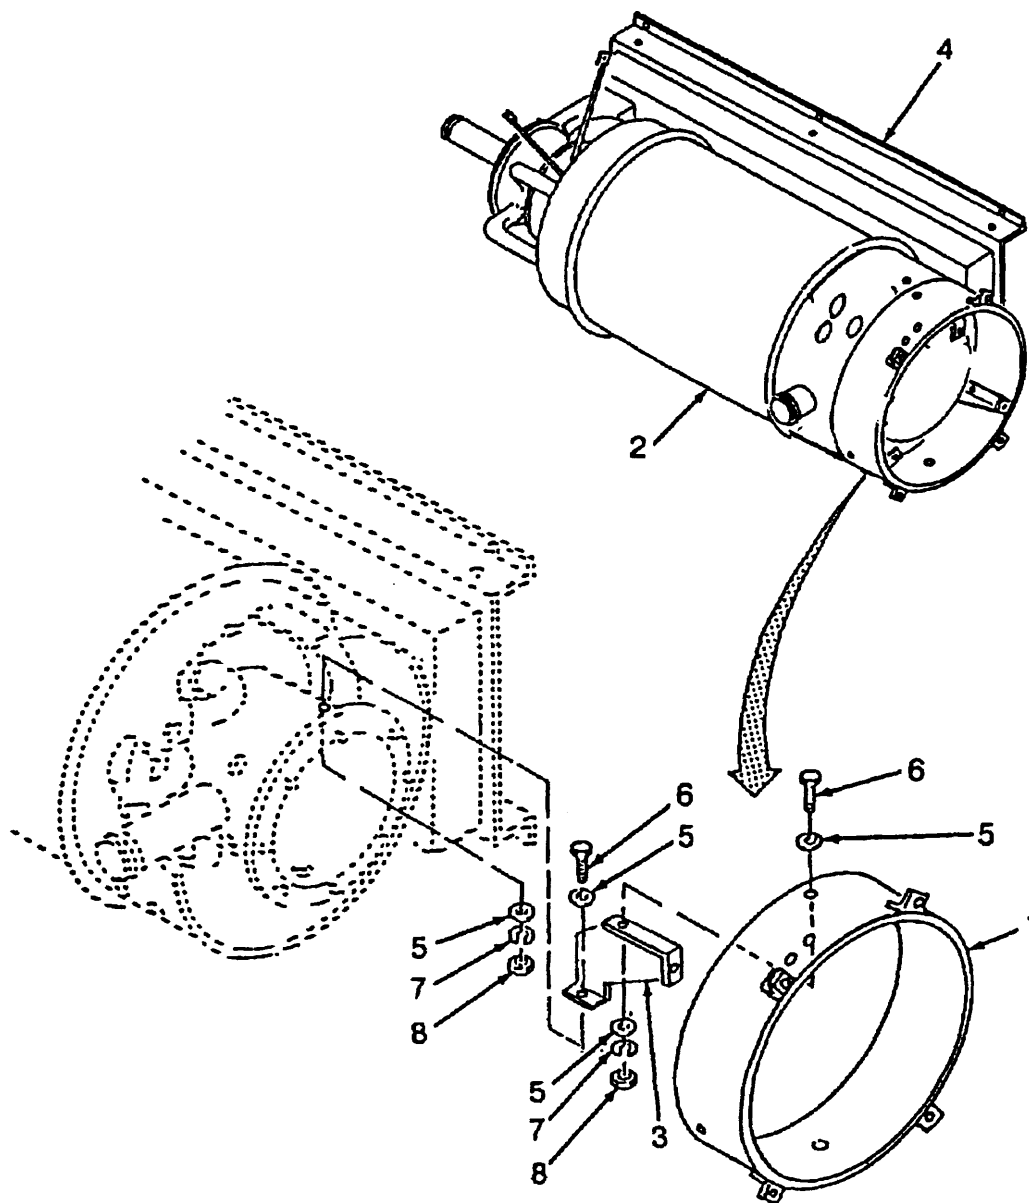

Figure 5-17. Heat Exchanger, (Model H120) Assembly
e. Assembly - continued (Refer to Figure 5-17)
- (5) Slide mounting ring (1) in end of heat exchanger shell (2), position the large hole in the ring towards the bottom of the shell.
- (6) Install three brackets (3) between heat exchanger (4), heat exchanger shell (2) and mounting ring (1), and secure each with four flat washers (5), two screws (6), two lockwashers (7) and two nuts (8).